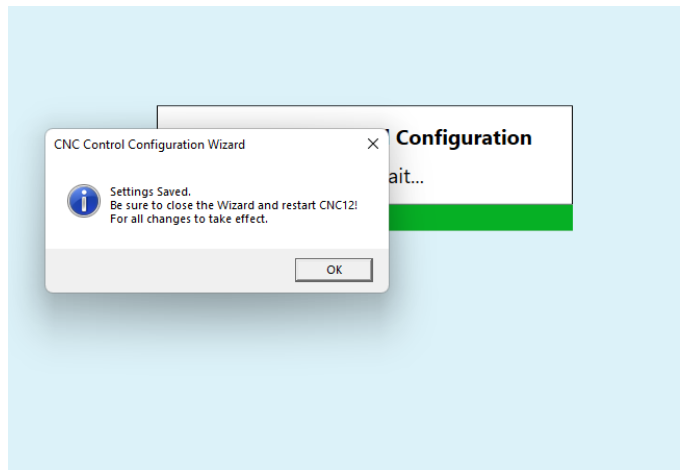

FIGURE 14
E. Now, you will be prompted to close the Wizard and restart CNC 12. Turn the power switch on the Acorn controller box off and close the Wizard down (see Figure 14).